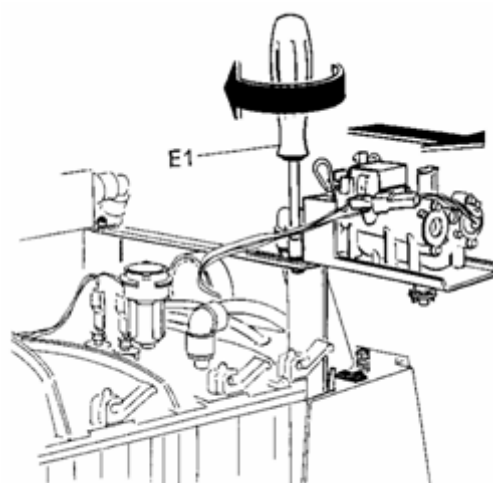

Fig. 9
- Assemble the valve plate A1 and the black knob B1 (you can find them inside the machine package) as indicate in the fig.9;